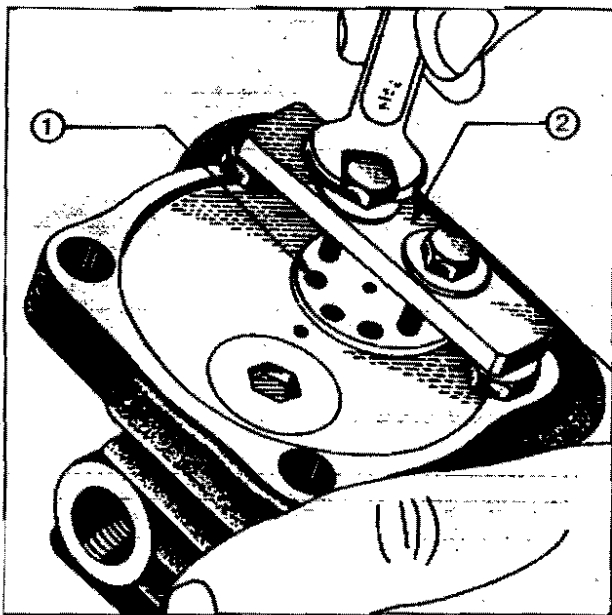
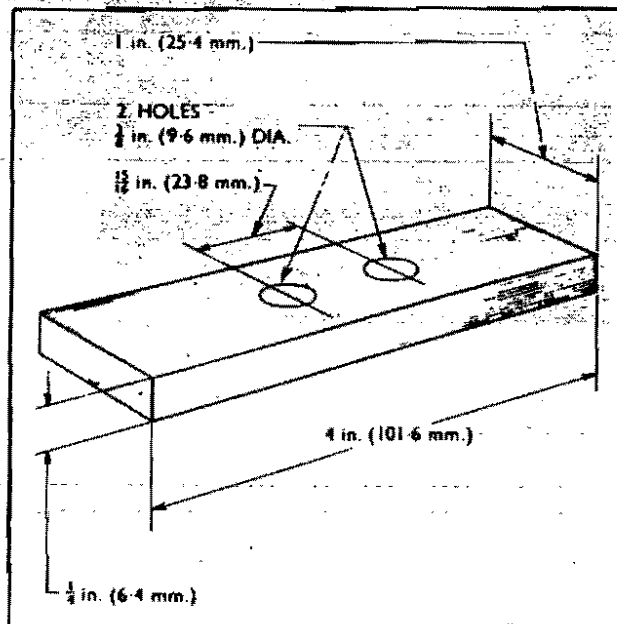

Fig. 7
Fig. 8
- (d) Invert the cylinder head assembly and withdraw the inlet valve guide (see Fig. 7), using a simple extractor made from two  $\frac{1}{4}$  UNF bolts 25 mm (1.0 in) long, and a metal plate as shown in Fig. 8.